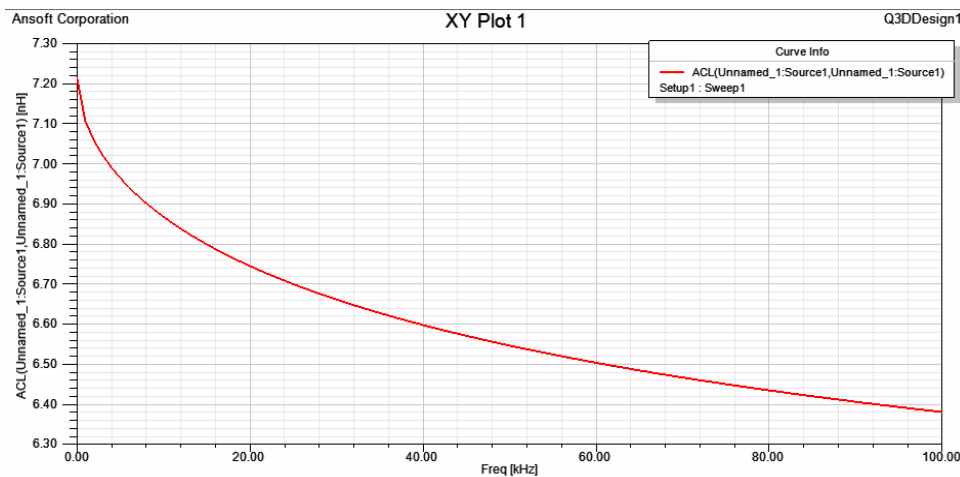
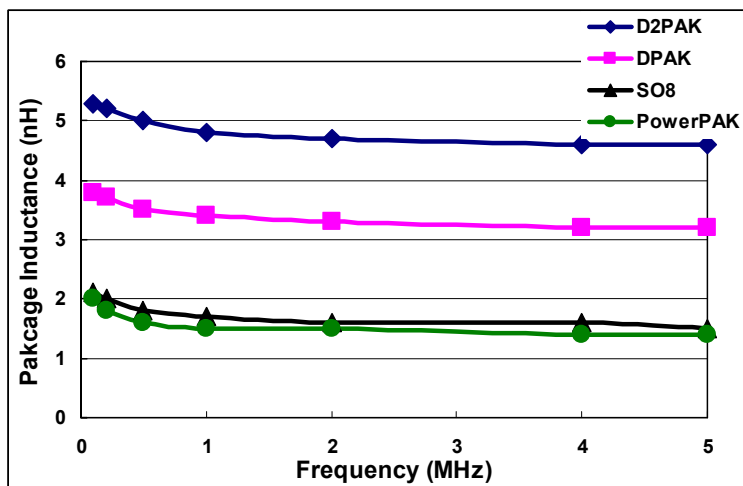

Figure 20 — TO220-3 Package Inductance vs. Switching Frequency Simulate by Ansoft
Figure 21 — Surface Mount Packages Inductance vs. Frequency
For L_S , figure 20 shows the typical L_S value of a traditional TO220-3 package MOSFET simulated by Ansoft. For some SMD packages, such like SO8 and TO252, the L_S is a bit smaller, which is in figure 21. The trace on the PCB layout will also bring in some leakage inductance, which is $\sim 1\text{nH/mm}$.
Derived from (17) and (18), the secondary CCM turn-off di/dt for this case is around $60A/\mu s \sim 150A/\mu s$ due to the different input. With a TO220 package SR FET ($\sim 6.5nH$ package inductance at $60kHz$ from figure 20), the voltage drop on package inductance V_{LK} will be $400mV \sim 900mV$ according to (16). This voltage drop is much larger compared with the voltage drop on $r_{ds(ON)}$ and dominate the V_{DS} in (15) trigger $-30mV$ turn-off threshold of the IC affirmatively.